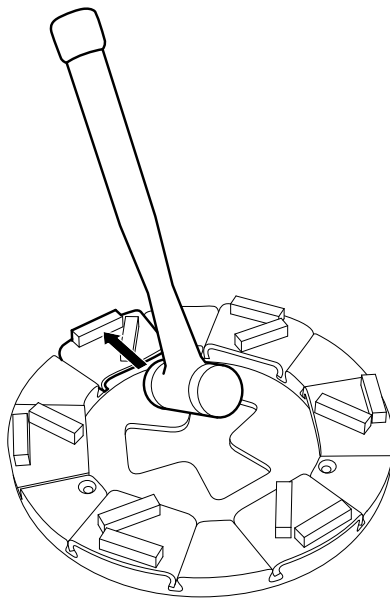

Figure 4-4 Locking grinding tools
2. Lock the grinding tool into the tool holder by giving it a few light taps with a rubber hammer - see Figure 4-4 on page 19.
3. Lock the grinding tool into the tool holder by giving it a few light taps with a rubber hammer - see Figure 4-4 on page 19.